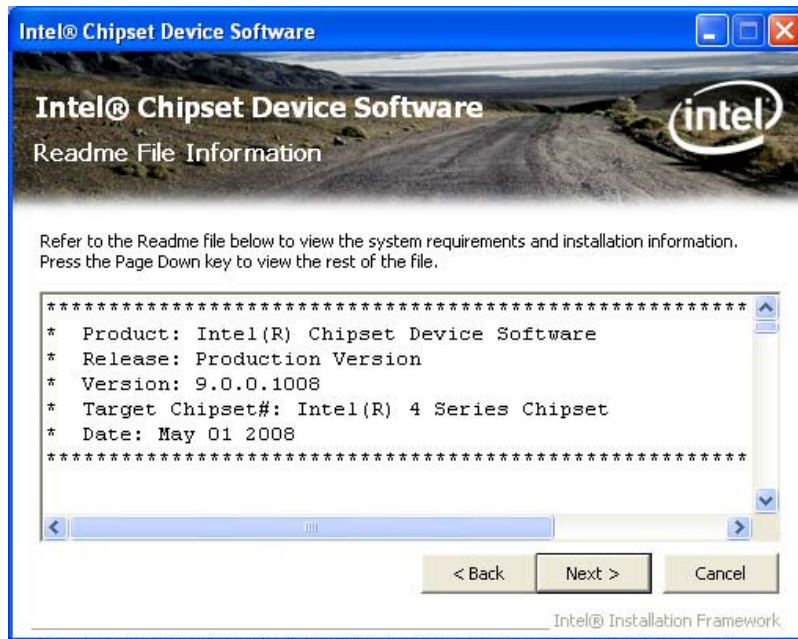

Figure 5-5: Chipset Driver Read Me File
Step 10: The **Read Me** file in **Figure 5-5** appears.